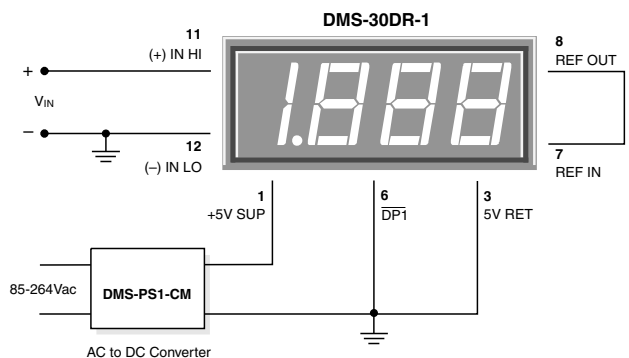

Figure 2. Single-Ended Input Configuration
- 1. Single-Ended Input Configurations:** True single-ended measurements can be made with any DMS-30DR meter. The circuit of Figure 2 avoids problems normally associated with ground-loop currents. Separate ground runs should be used for 5V RETURN (pin 3) and (–) INPUT LO (pin 12). This will ensure that large LED currents will not flow in the wiring that connects  $V_{IN}$  to (–) INPUT LO (pin 12). Ground-loop currents can cause unstable readings.